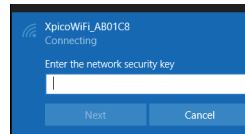

Figure 15: Network Security Password
4. After clicking Connect, enter “xpicowifi” in lower case as the network security password. Click on Next button to complete the connection. See Figure 15.